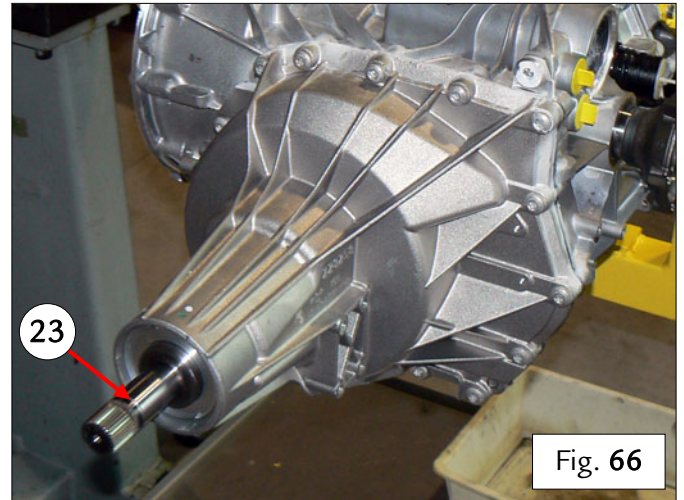

Fig. 66
- Continue to move the differential housing forward slowly, proceeding carefully; a few centimeters before the two components come into contact, if necessary, rotate the front flange (23) slightly to align the components – Fig. 66.